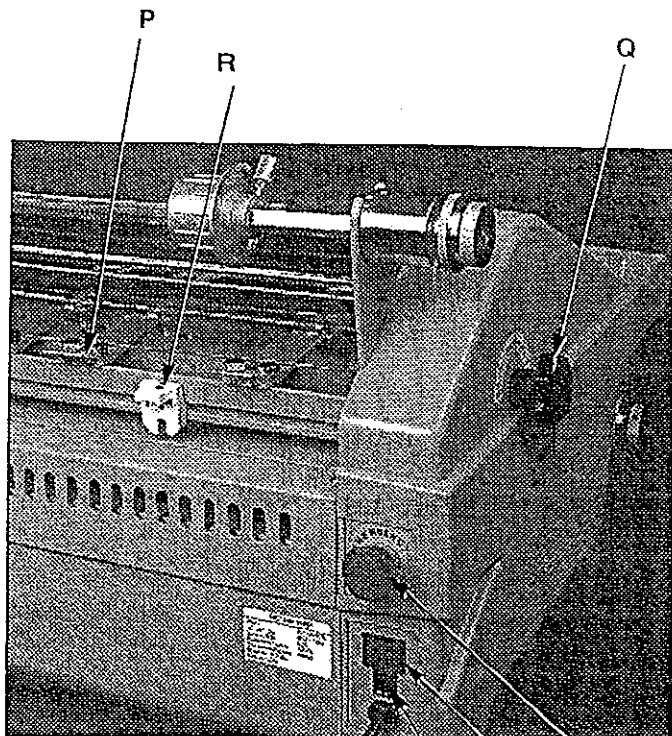

Fig. 1
A. POWER SWITCH: Fig. 1.
K. CIRCUIT BREAKER: Electrical safety device, located on the back of the laminator near the power cord, can be reset by the operator if tripped (Figure 1).
P. SIDE SLITTERS: The slitters can be adjusted to slit the sides of the web as the product being laminated exits the unit. Three slitters enable the operator to run two up and slit both sides of each item, (Figure 1).
Located on the left side engages and disengages the side slitters, (Figure 1).
P. SIDE SLITTER: Used to cut off the laminated web, (Figure 1).
R. REAR SLITTER: Used to cut off the laminated web, (Figure 1).